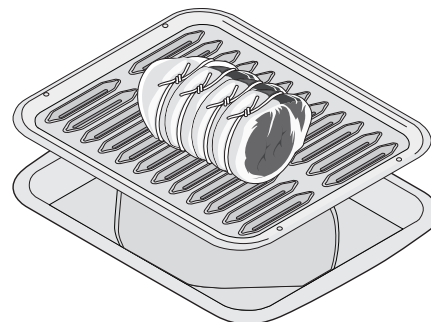

Figure 20: Broil pan with insert for convection roasting
4. Place meat (fat side up) on roasting rack and the roasting rack onto the insert. (Figure 20). Place prepared food on oven rack and slide into oven.